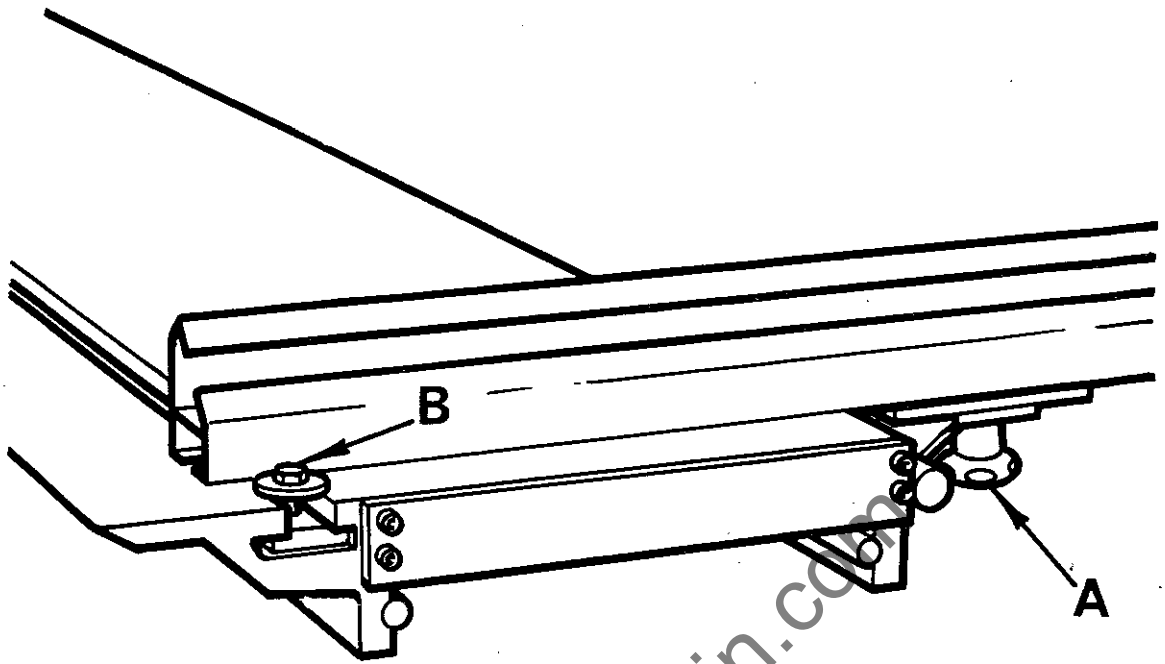

FIG 7
2. Lock front of fence in position by handwheel "A" in FIG 7.
4. The front of the fence is supported by the adjustable stop which is locked to the sliding table by the hexagon head bolt "B" in FIG 7.